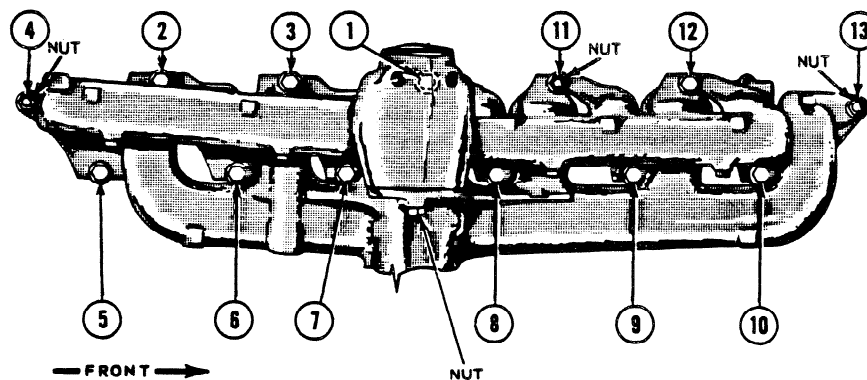

FIG. 31 Intake and Exhaust Manifolds Torque Sequence
- Coat the mating surfaces lightly with graphite grease. Place the manifold assemblies in position against the cylinder head. **Make sure that the gaskets have not become dislodged. Install the attaching washers, bolts and nuts.** Torque the bolts and nuts to specifications in the sequence shown in Figure 31.